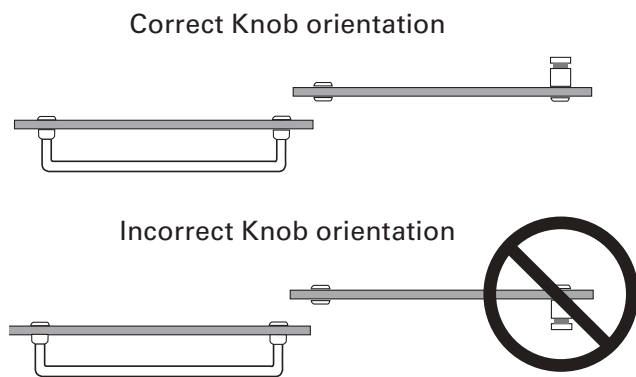

Figure 13
6. Tighten the Knob/Recessed Finger Pull. The Knob should face the inside of the shower (See **Figure 13**).
2. Ensure that the Knob is installed correctly (See **Figure 13**). Gently slide both Door Panels to the wall with the shower head. Now slide the Inside Door Panel 5-6" toward the opposite wall. This will give you clearance to perform the next step.
6. Tighten the End Cap/Recessed Finger Pull. The End Cap should face the outside of the shower (See **Figure 13**).